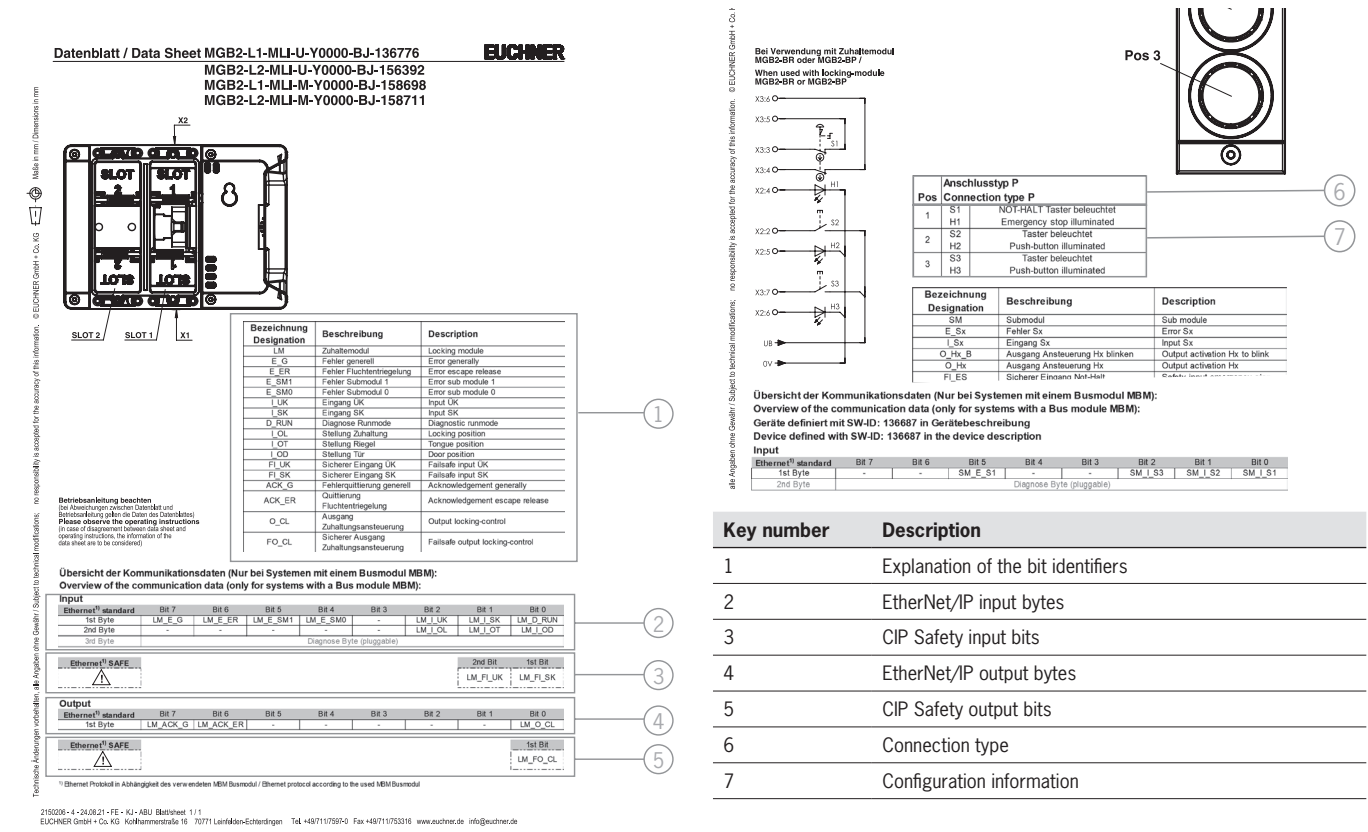

Fig. 3: Example data sheets, locking module (left) and submodule (extract, right)
The individual abbreviations are explained in the following tables. You will find a detailed explanation of the individual bits on the supplementary data sheet (see item 1 in *Fig. 3 on page 27*).